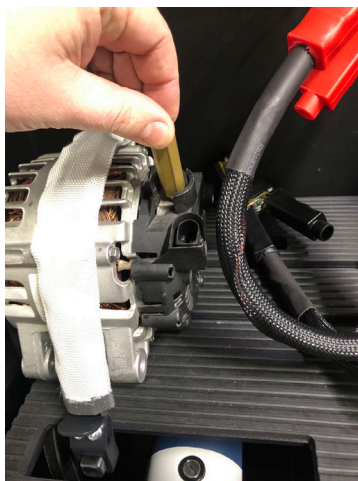

Figure 12
6. Screw the adapter onto the "B+" terminal (see Fig. 12).